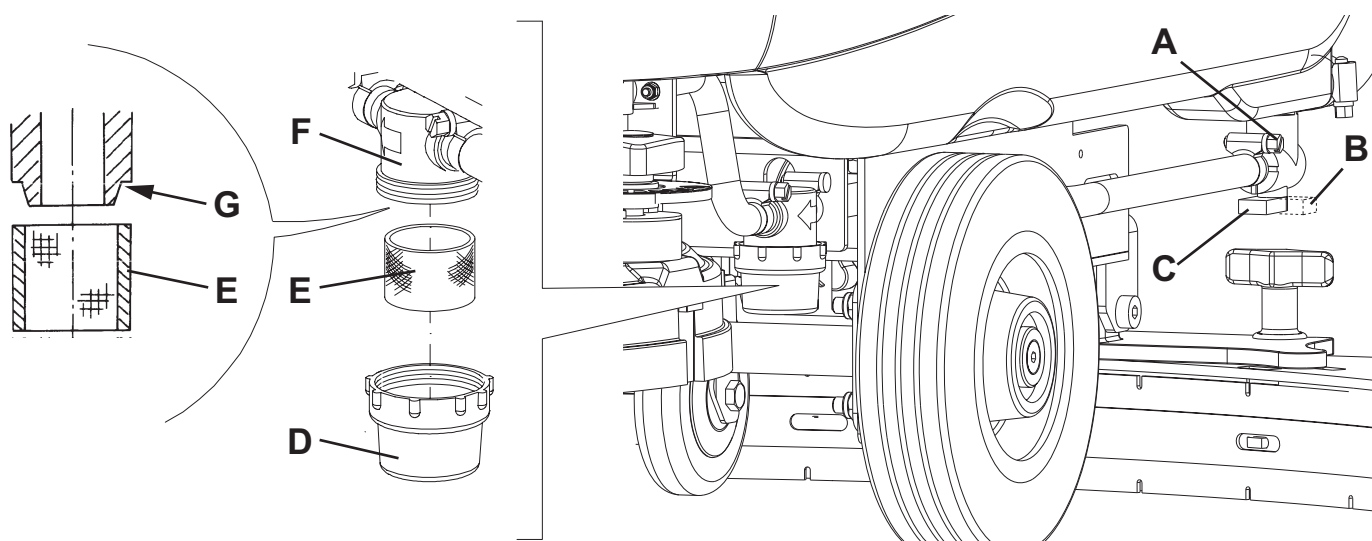

Figure 7
2. Turn the ignition key (80) to "0".
3. Close the solution tap (A, Fig. 7) under the machine, behind the right rear wheel. The valve (A) is closed when it is in the position (B) and it is open when it is in the position (C).
4. Remove the transparent cover (D), then remove the filter strainer (E). Clean and install them on the support (F).